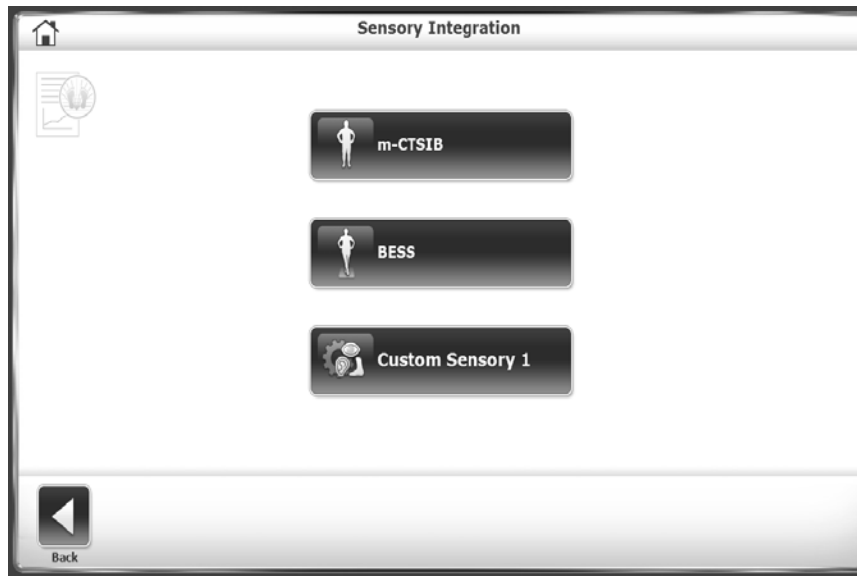

Figure 7.16. Sensory Integration Test Menu with Custom Test.
3. Touch <Custom Sensory Integration>. The new protocol is listed (see Figure 7.16).